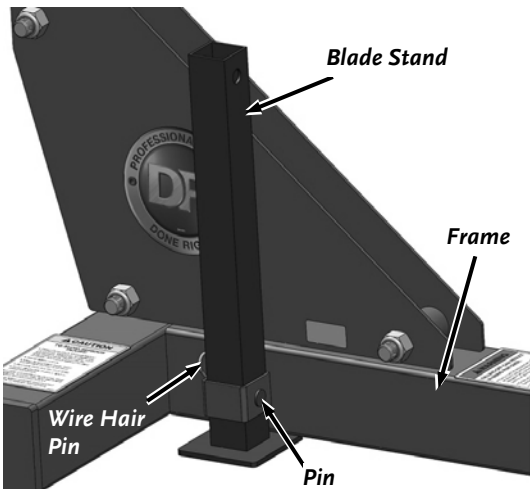

Figure 13
8. Raise the Rear Blade Stand to the working position, by sliding the Stand upward in the Frame. Align the lower hole in the Stand to the hole in the Frame and secure with Pin and Wire Hair Pin (**Figure 13**).